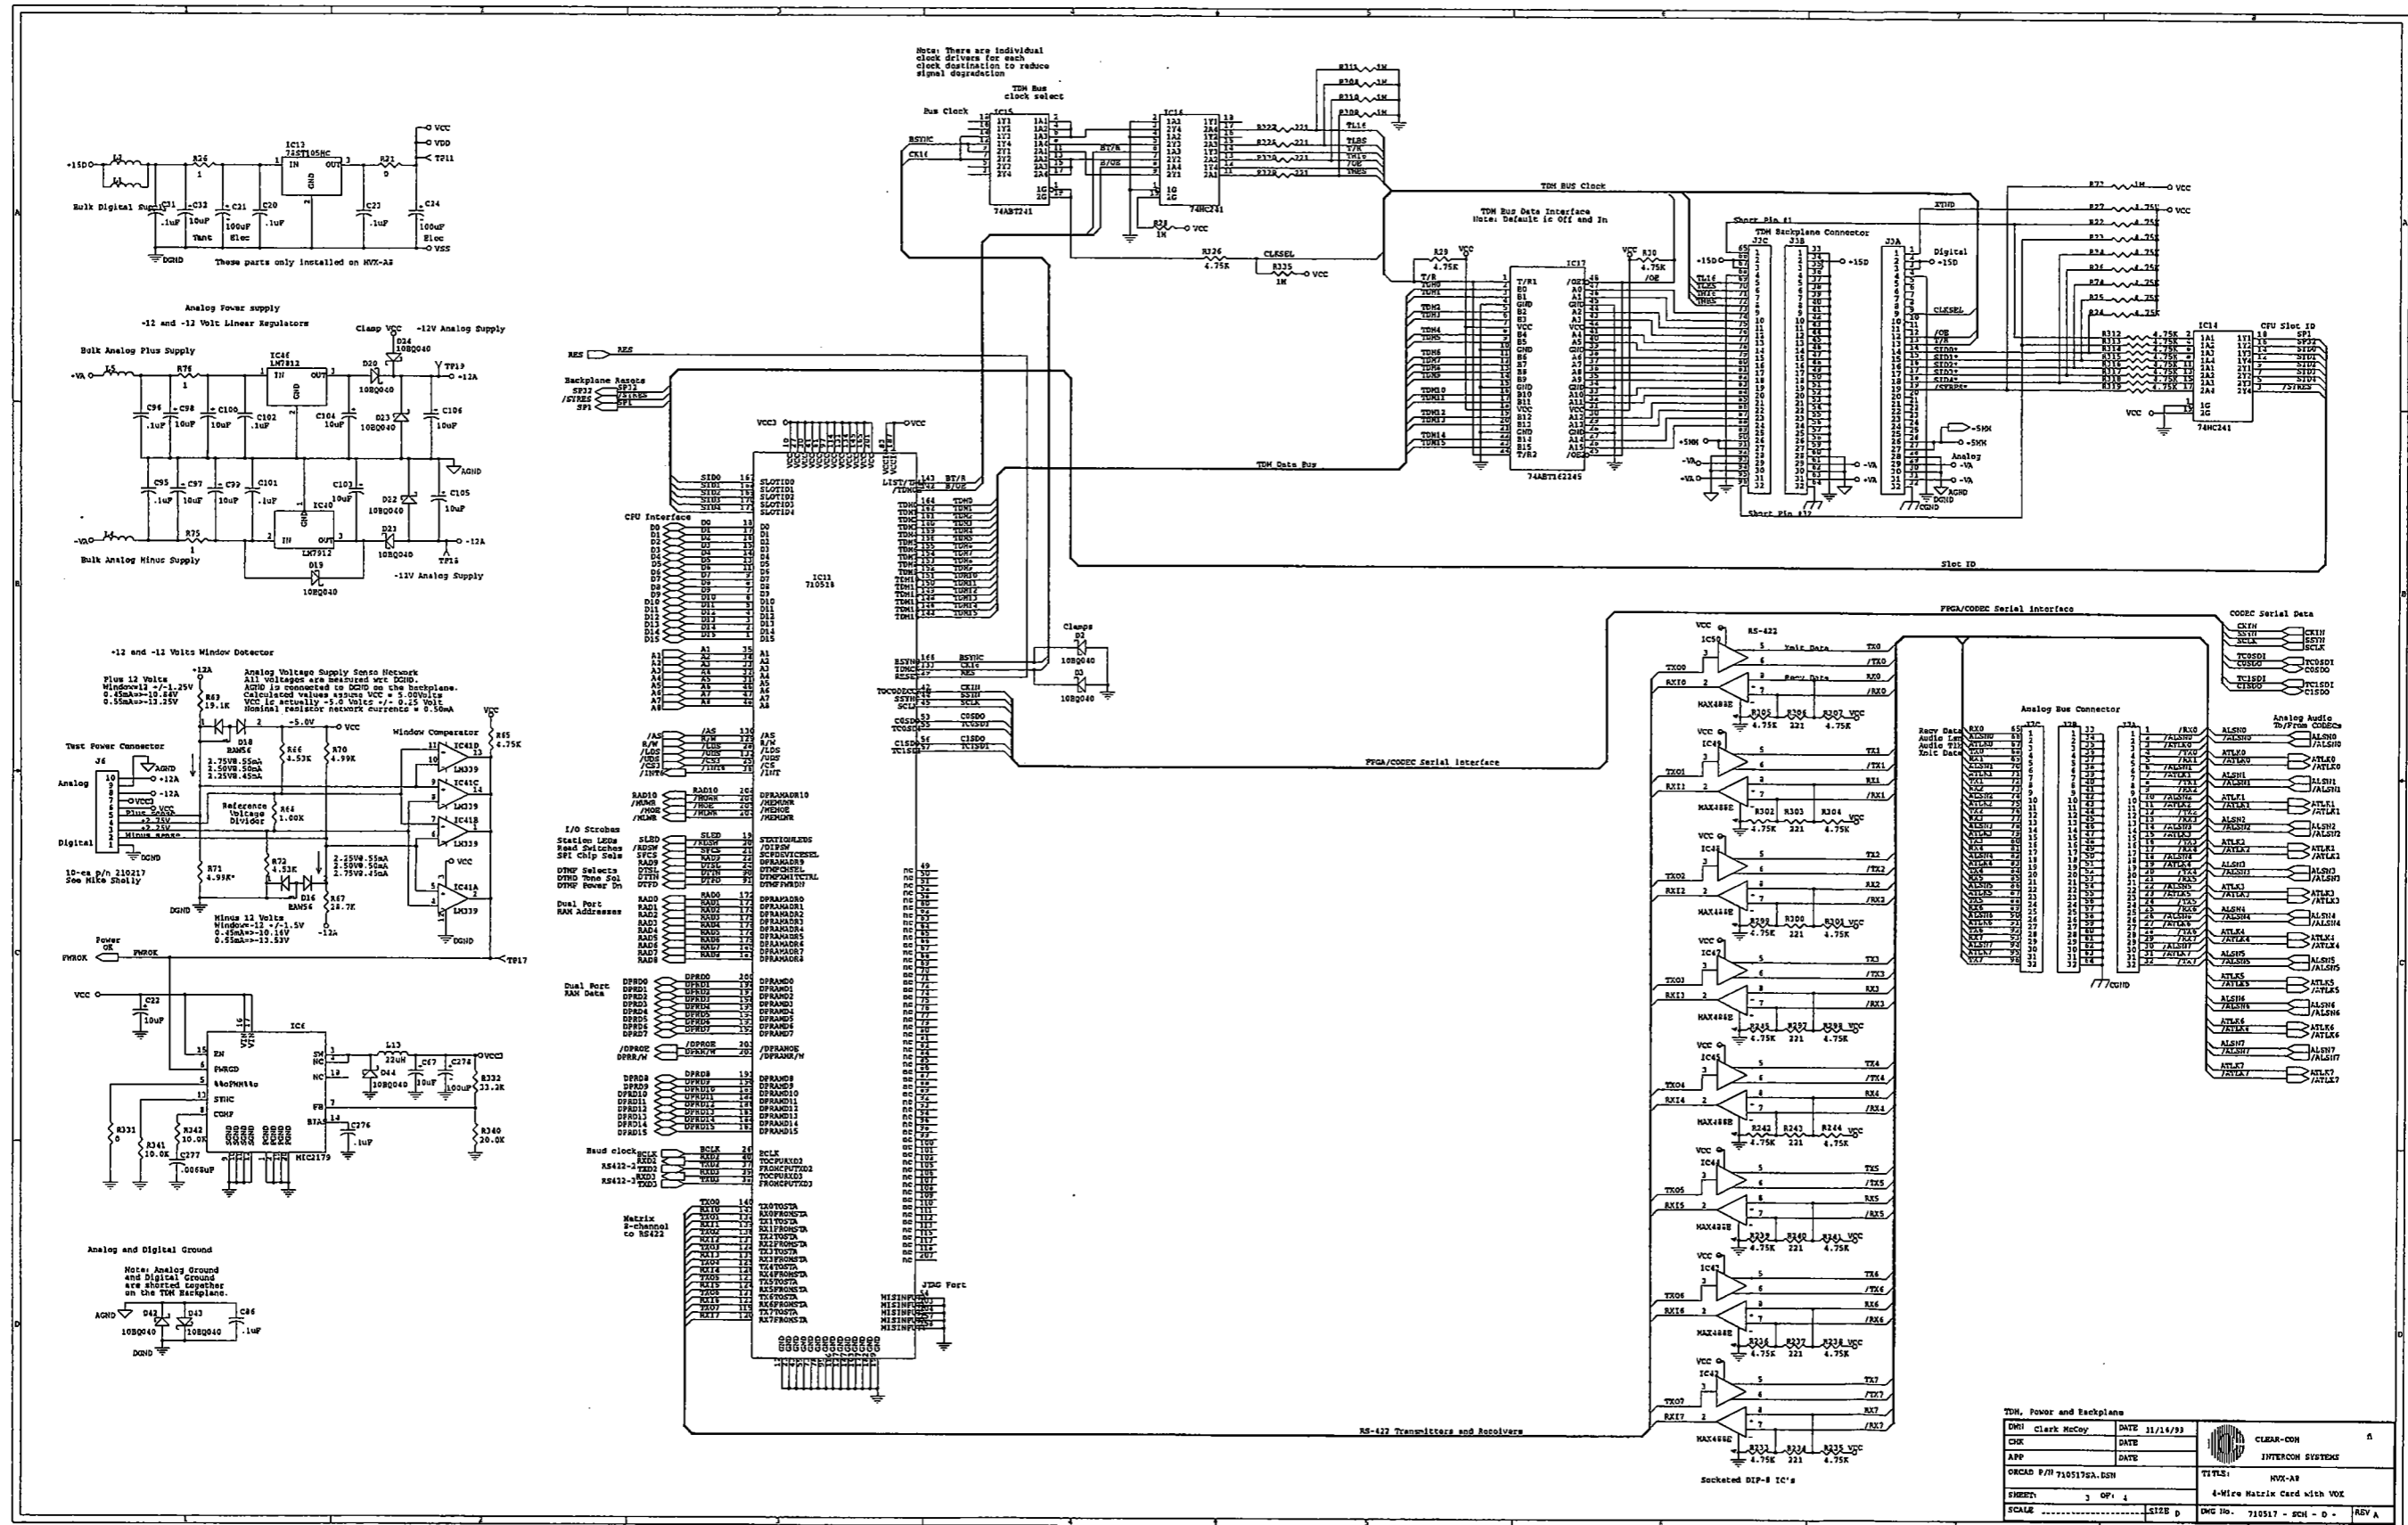

FIGURE M1-5: Schematic—MVX-A8/L8 PCB Sheet 3, Rev. A
- Sheet 3 (Figure M1-5 on page M1-11) contains the FPGAs that interface between the microprocessor, the DDSP bus, and the digital, 2-wire line drivers.